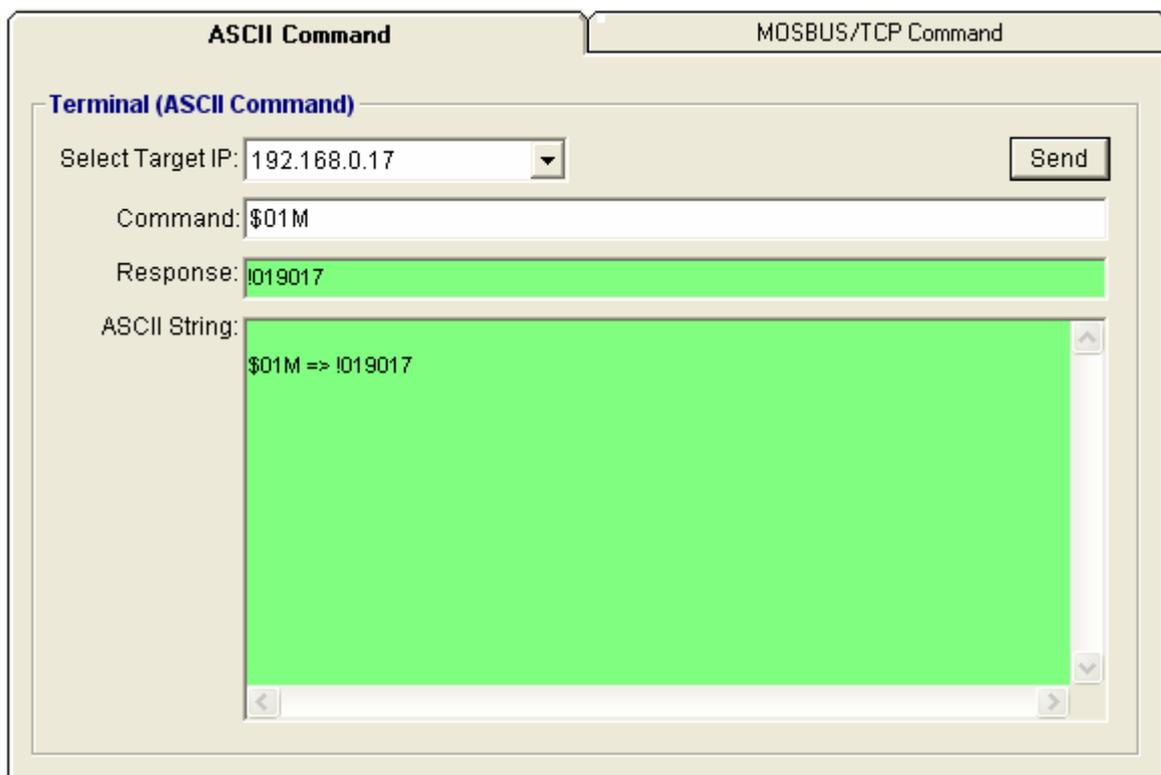

Figure 3-4 ASCII Command Terminal
**ASCII Command mode:** shown as Figure 3-4.